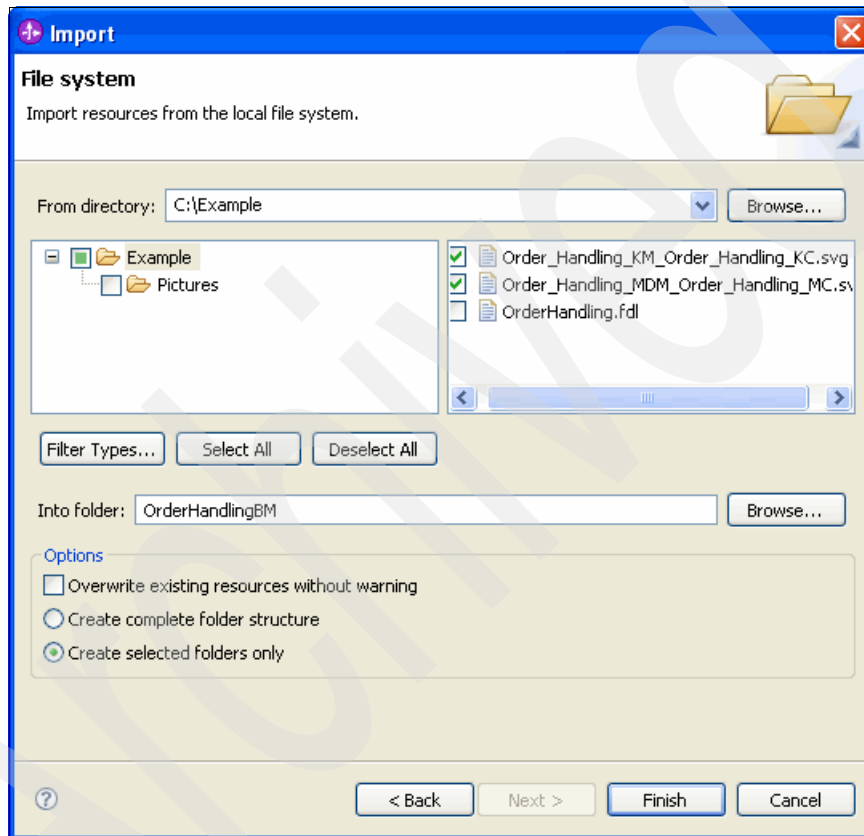

Figure 8-122 Selecting the .svg files to import
- c. In the Import – File system window (Figure 8-122):